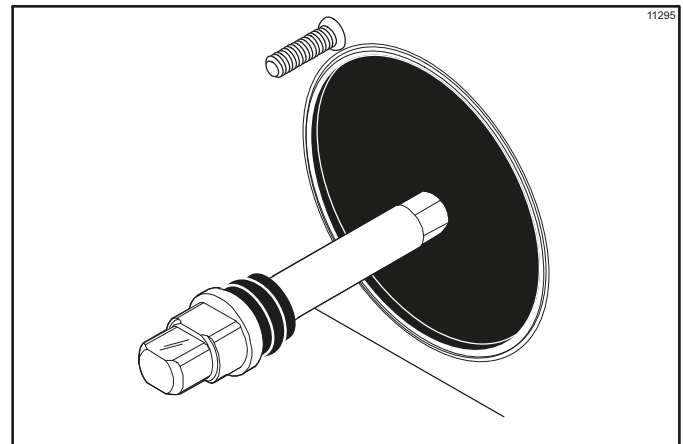

Figure 6-2
5. Insert the beater driveshaft through the rear shell bearing in the freezing cylinder and engage the hex end firmly into the drive coupling. (See Figure 6-2.)